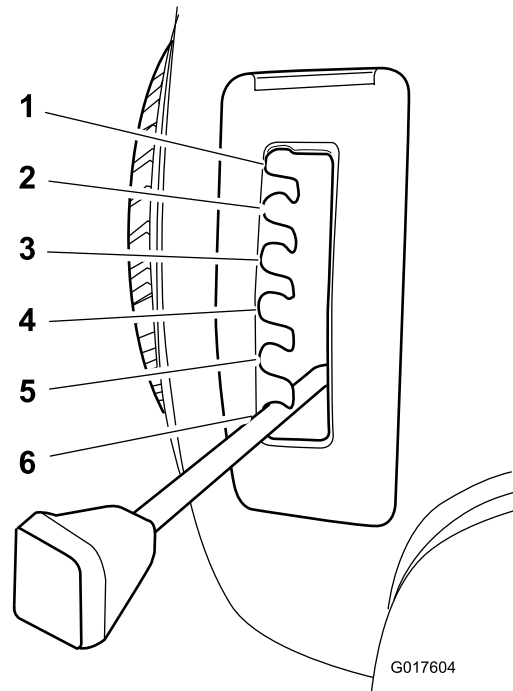

Figure 9
4. Pull on the height-of-cut lever on the tractor and move it to the desired position (Figure 9).